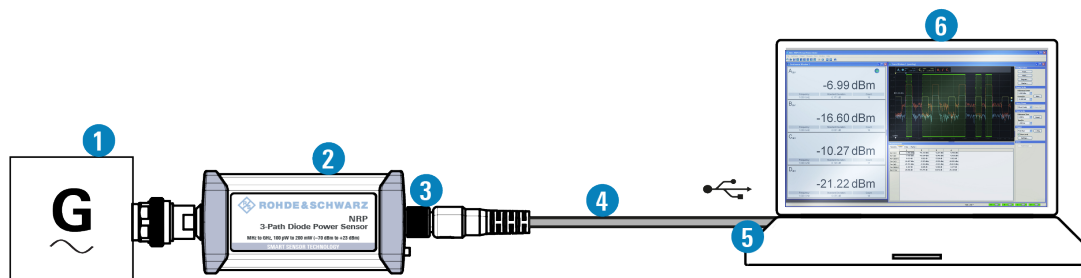

Figure 6-2: Setup with an R&S NRPV
1. Connect the power sensor to the computer as shown in Figure 6-2. For a detailed description, refer to Chapter 4.6.1.1, "Simple USB Connection", on page 14.